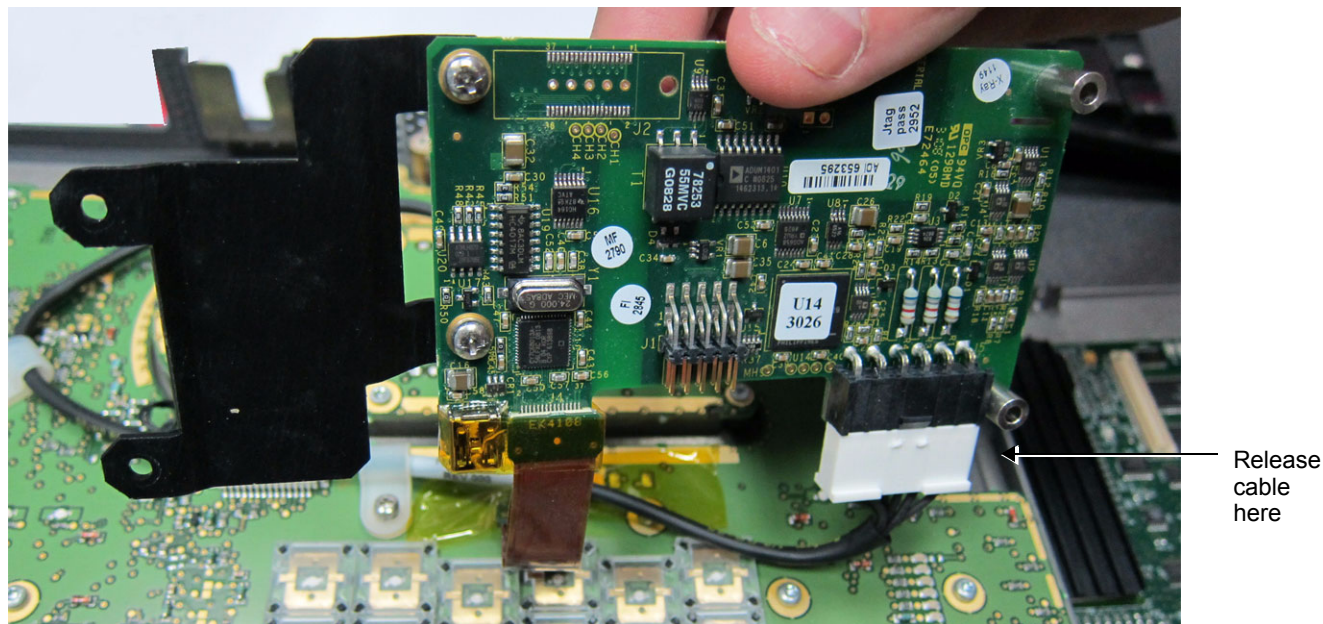

Figure 8-30 Disconnecting the ECG Module Cable
- 3) Lift and tilt the ECG Module on its side, then disconnect the ECG Module cable - see Figure 8-30 on page 8-24.
- 3) Re-connect the ECG cable - see Figure 8-30, above.